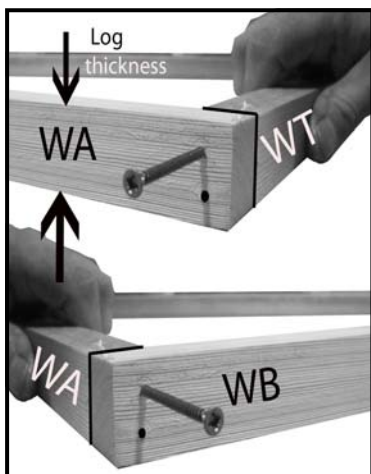

Fig A1
4. Lay out the parts **WA** and **WB** and **WT** as in the inner frame assembly drawing. The narrowest (25mm) edge to the work bench and the side the size is the same as the log thickness as shown in fig A1. Part **WT** must be inside parts
5. **WA** and part **WB** underneath the two **WA** parts (Fig A1).
6. Pre drill 2 3mm holes at one end of the **WA** only and at both ends of the **WB** parts (see drawing)and screw together at each corner, 10mm from the edge (ensuring each corner is flush) with 2x50mm screw (fig A1).